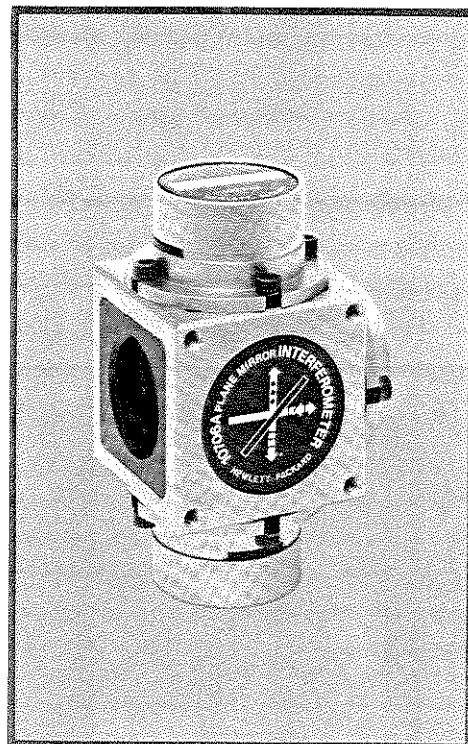

Figure 2-15. 10706A Plane Mirror Interferometer
2.15 10706A PLANE MIRROR INTERFEROMETER (Figure 2-15). The plane mirror interferometer has a unique feature in that the retroreflector can be a flat mirror and it has a particular advantage in that interference fringes can still be detected even if the measurement beam is not at a perfect right angle to the mirror. It is an advantage to use plane mirrors as retroreflectors because (in a two-axis system for example) the X retroreflector can be allowed to move in the Y direction without affecting the signal strength or the X measurement. Therefore both retroreflectors of a two-axis system can be mounted on the same moving part. This makes it very easy to eliminate Abbe offset on a two-axis system. If the measuring point is defined to be where the two axis beams cross, the measurement is essentially independent of yaw of the moving stage. Such a design is shown in Figure 2-44. Contrasting this system to a two-axis system using standard interferometers, we see that (if standard interferometers are used) the X-axis retroreflector must be mounted on a part of the stage which moves only in the X direction and never in the Y direction. Also, the Y-axis retroreflector must be mounted on a different part of the stage which is allowed to move only in the Y direction and never in the X direction. Therefore, the two-axis measurements cannot be made on the same part of the stage and there is by necessity some geometry error in the system if it is not perfectly rigid. Another difference between the plane mirror interferometer and the previous two types is that with a plane mirror interferometer the measurement beam travels between the interferometer and the retroreflector twice and therefore the resolution is twice that of the other interferometers. To be specific, the standard interferometer and single beam interferometer have a resolution of 0.16 micrometre (6 μ inches) without electronic resolution extension, whereas the plane mirror interferometer has a resolution of 0.08 micrometre (3 μ inches) without electronic resolution extension. All three of these interferometers are used to measure linear displacement.